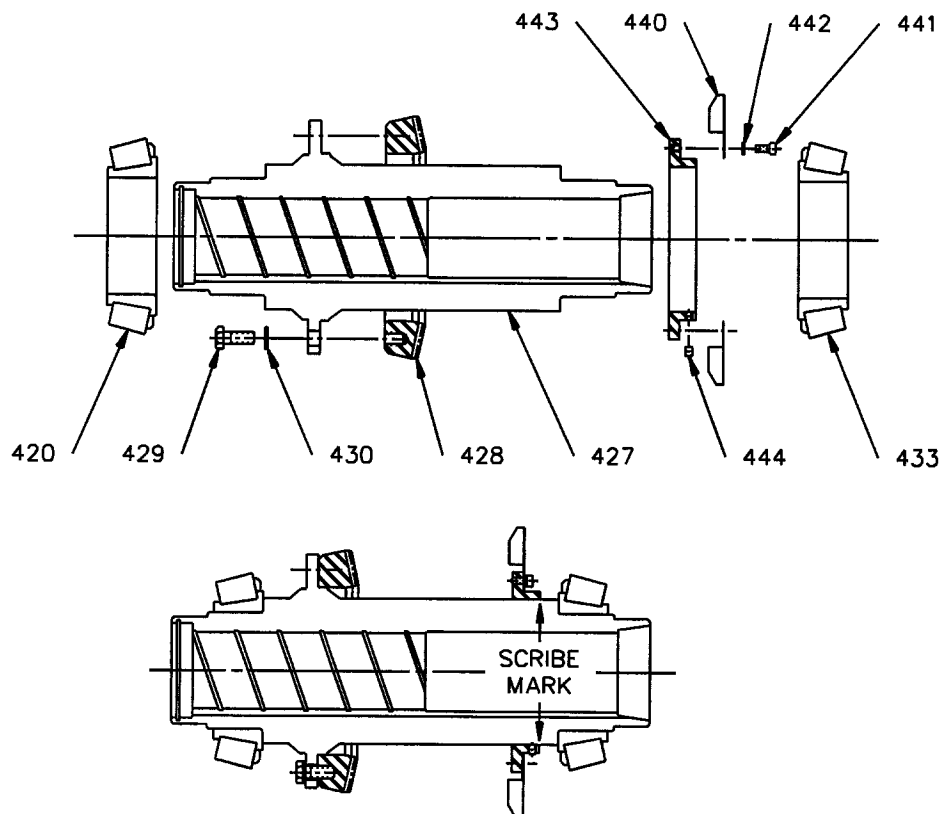

Figure 28: Hollow Shaft [426]
- Using a paint stick, highlight the "X" match marks on the outside of spiral bevel gear [428] (Figure 28, page 70).